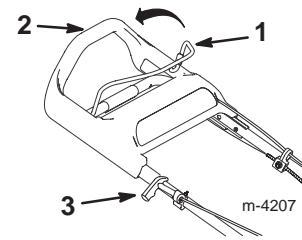

Figure 7
2. Hold the blade control bail against the upper handle (Fig. 7).
3. Pull the starter handle lightly until you feel resistance, then pull it sharply (Fig. 7). Allow the rope to return to the handle slowly.